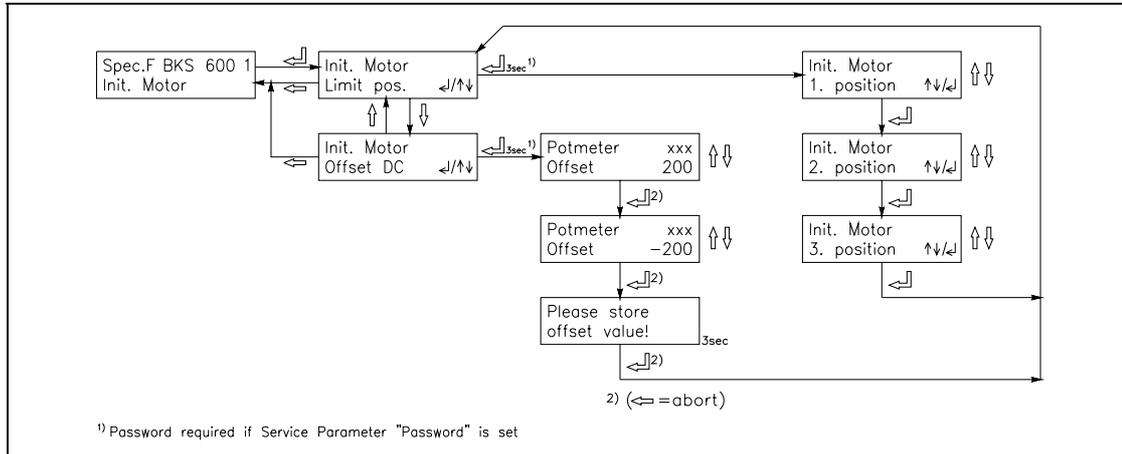

fig. 24: program flow „Init. Motor“
- Call special function *Init. Motor Limit pos.* with MODE ↑ ↓ ↵ keys and confirm by pressing the ↵ key for 3 seconds (fig. 24).
- Call special function *Init. Motor Offset DC* with MODE ↑ ↓ ↵ keys and confirm by pressing the ↵ key for 3 seconds (fig. 24).